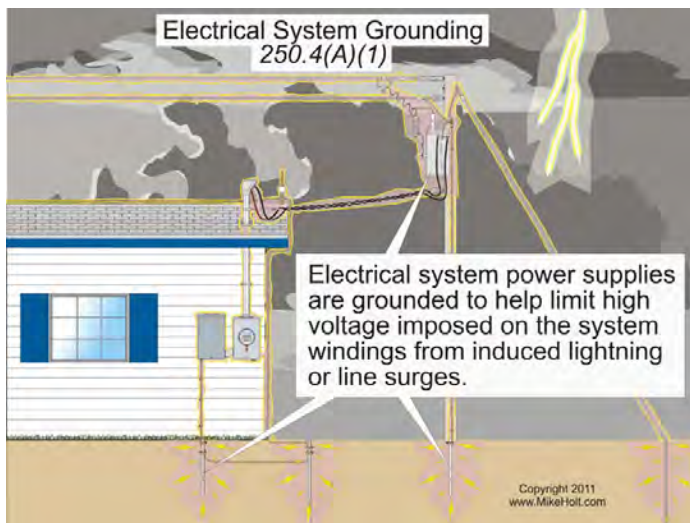

Figure 250-6
(1) Electrical System Grounding. Electrical power systems, such as the secondary winding of a transformer are grounded (connected to the earth) to limit the voltage induced by lightning, line surges, or unintentional contact by higher-voltage lines. **Figure 250-6**